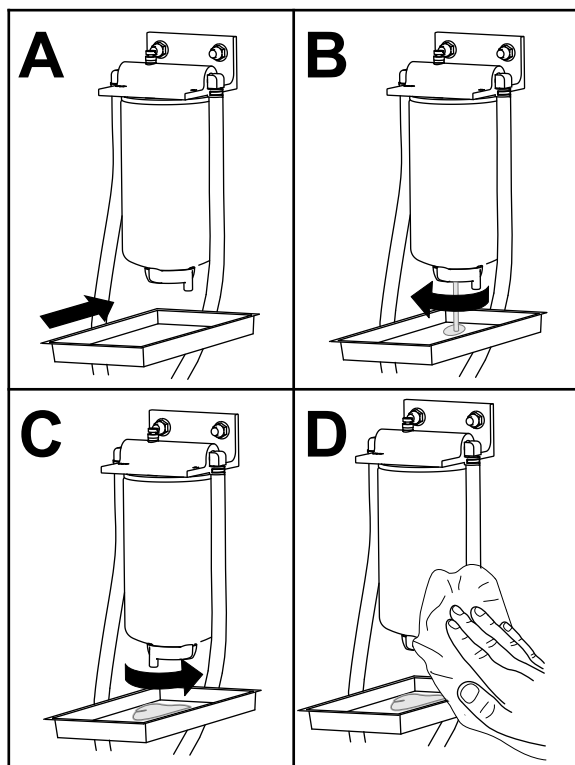

Figure 83
1. Drain water from the fuel/water separator as shown in Figure 83.